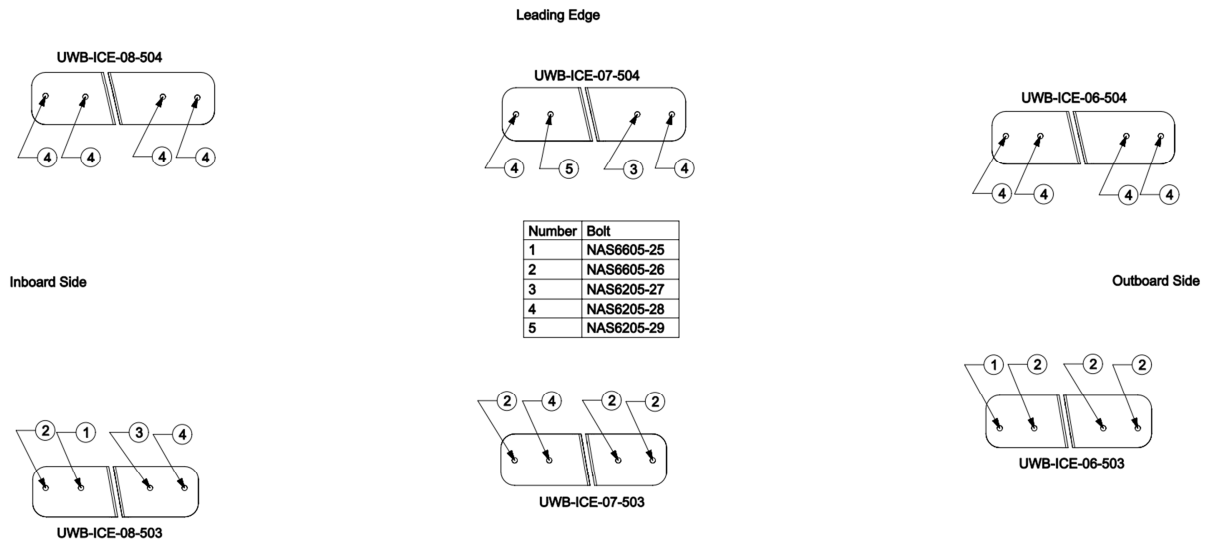

Figure 2-10: Starboard Wing Upper Pylon Lugs Fastener Placement
1. Attach the starboard wing pylon forward upper lugs (UWB-ICE-06-504, UWB-ICE-07-504, and UWB-ICE-08-504) and starboard wing pylon upper aft lugs (UWB-ICE-06-503, UWB-ICE-07-503, and UWB-ICE-08-503) using the fasteners and locations shown in Figure 2-10, with the exception of temporarily leaving out the most outboard bolt on UWB-ICE-06-504 and the most inboard bolts on UWB-07-503, UWB-07-504 and UWB-ICE-08-503.
- b. Note each lug is stamped P5 or P6 denoting Polar 5 or Polar 6 installation, with its drawing number which can be seen in Figure 2-10, and by O or I indicating if it was the inboard or outboard side of the pair (e.g. P6 08-504 I).